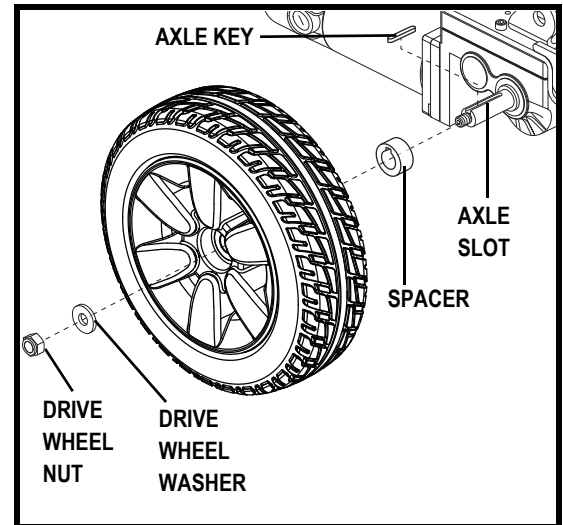

Figure 27. Solid Drive Wheel Removal
6. If you are replacing a solid tire, remove the spacer. See figure 27.
11. If you are replacing a solid tire, reinstall the spacer. See figure 27.